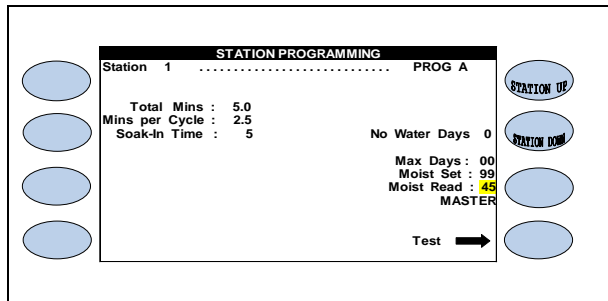

Figure 5.43
-  Press the **TEST STATION # FOR MOISTURE SENSOR** Menu key to activate test. The screen will show “READING SENSOR ON # please wait (Less than 15 seconds)” for which ever station you selected. After a brief test the STATION PROGRAMMING screen will appear with the Moisture Sensor reading displayed (Figure 5.43).